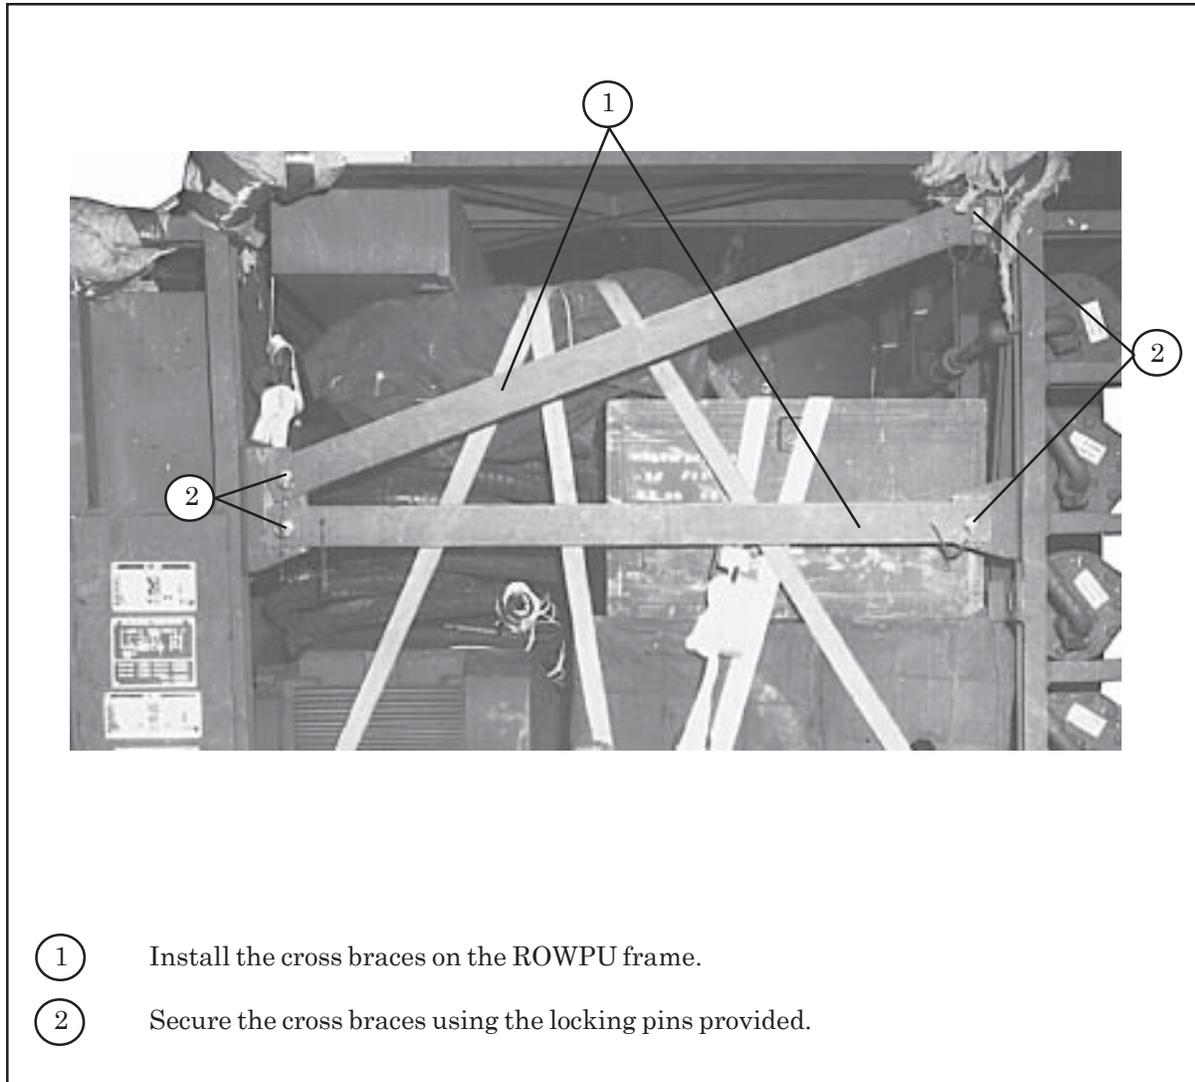

Figure 1-21. Cross Braces Installed and Secured
- u. Install and secure cross braces as shown in Figure 1-21.